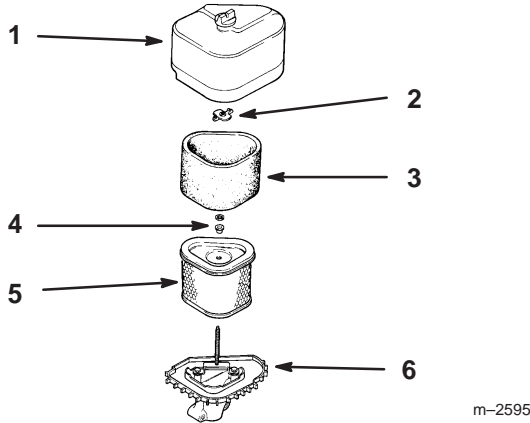

Figure 27
2. Clean around the air cleaner to prevent dirt from getting into the engine and causing damage. Unscrew the cover nut and remove the air cleaner cover (Fig. 27).
3. Remove the air cleaner assembly (Fig. 27).
4. Carefully slide the foam element off the paper element (Fig. 27).
1. Carefully slide the foam element onto the paper air cleaner element (Fig. 27).
2. Place the air cleaner assembly onto the air cleaner base (Fig. 27).
3. Install the air cleaner cover and secure with cover nuts (Fig. 27).